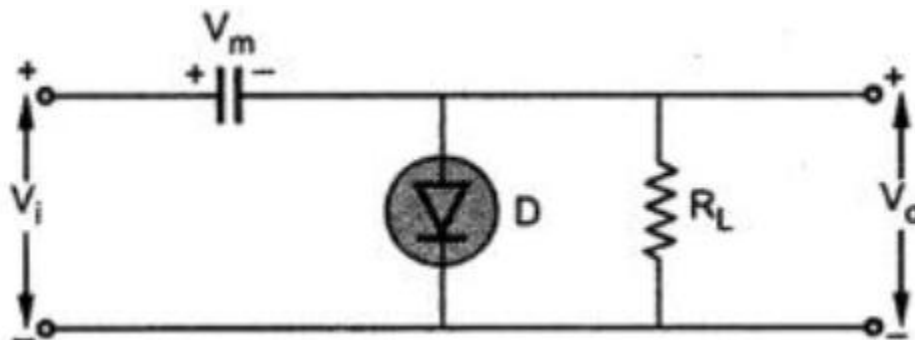

Fig.1.64 Operation of Negative clamper during first quarter of positive cycle
- The capacitor once charged to V_m , acts as a battery of voltage V_m , as shown in the Fig. 1.64.